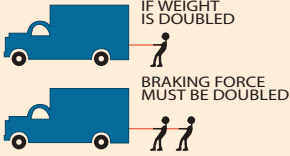

Figure 1
- 3** Weight (GVW). A heavy vehicle, even though it has better traction, needs more time and distance to stop. When the weight is doubled, the amount of force needed to stop the vehicle is doubled, and it will take about twice as long for that vehicle to stop (Figure 1 - page 42).